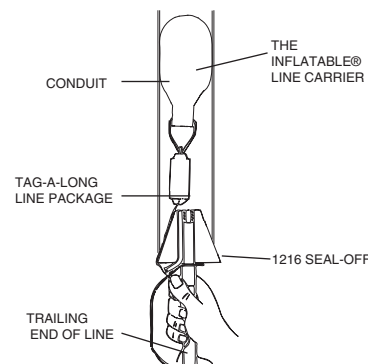

Figure 8
2. Unfurl the Inflatable line carrier and place it in the conduit-bag portion first (Refer to Figure 8).